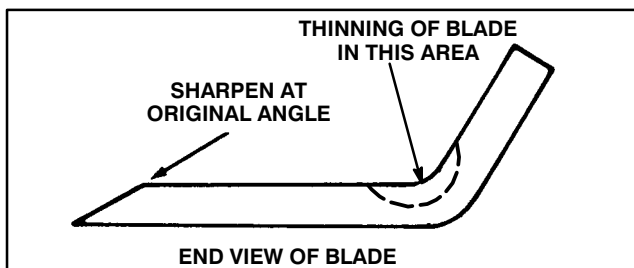

Figure 20
5. Using a file, sharpen cutting edge at both ends of the blade (Fig. 20).
Check cutter blade every time cutting unit is removed. If blade bolt holding blade is loose, tighten it to 45-60 ft-lb (61-81 N·m). If blade or sail (Fig. 20) at end of blade is worn, eroded or cracked, replace the blade. Replace the blade if it is bent or out-of-balance. Always use a genuine TORO replacement blade to ensure safety and best performance. **NEVER USE A WILL-FIT REPLACEMENT BLADE.**